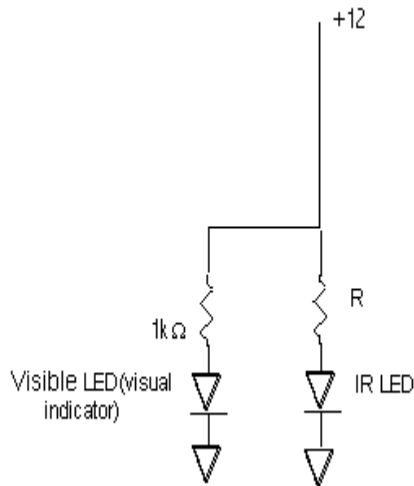

Figure 2. IR LED light source with visible LED visual indicator.
2. Construct IR Light Source: On the smaller of the two breadboards, hook up an IR LED to provide an infrared light source for signaling the phototransistor as shown in Figure 2 below. Use a pushbutton switch to turn the IR LED on and off. The IR LED will drop approximately 1.35 volts and should be operated with ~ 100 mA of current. **Q1:** Calculate the value required for the resistor labeled R in the circuit below to achieve these design specifications. **Q2:** Now calculate the power that you expect this resistor to absorb (remember the formulas for power in terms of current and resistance from your physics course. If you don't remember them, look them up or ask someone.) You will see that it is larger than 1/4 Watt. Since 1/4 Watt is the highest power the small resistors that we use in the lab can dissipate safely, you will have to use a larger resistor or a combination of resistors.